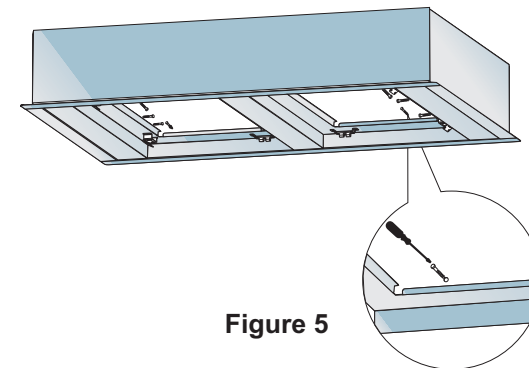

Figure 5
- * Place the hood on the section determined on the ceiling, and screw it to the ceiling as shown in Figure 5.